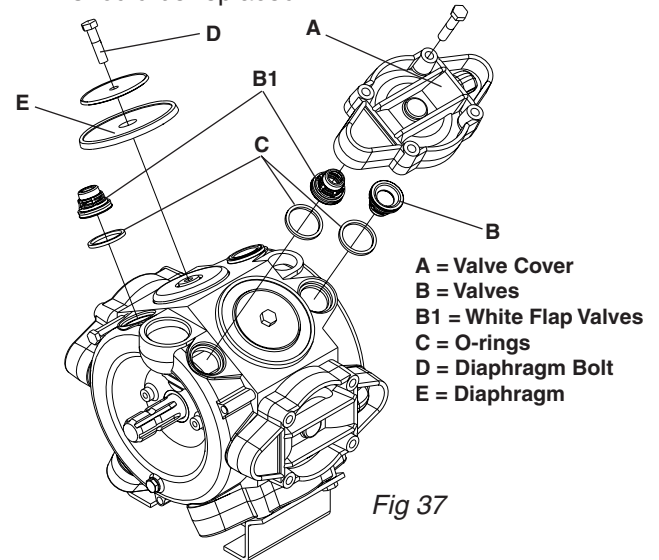
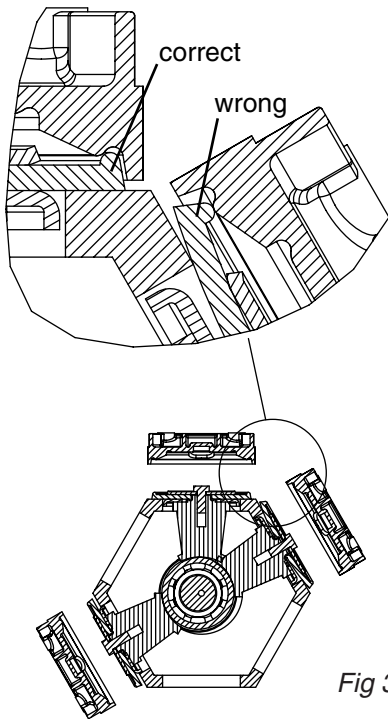
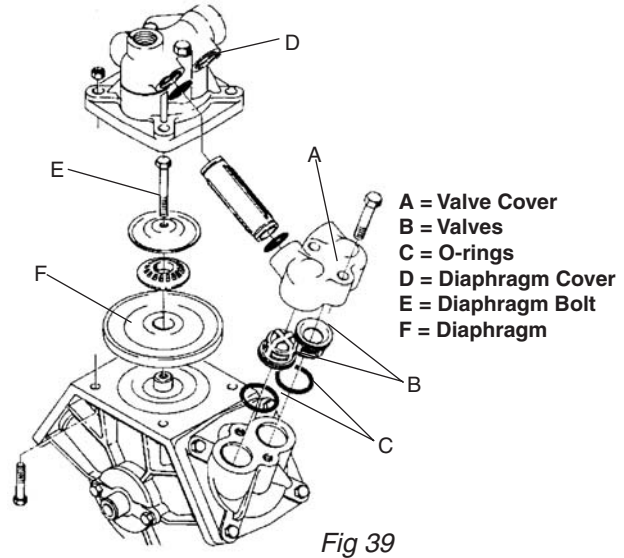

Fig 37
Fig 38
Fig 39
- 1 Remove the valve covers (**A Fig 37**). Before changing the valves (**B & B1 Fig 37**) note their orientation so they are replaced correctly.
- 2 The two white flap valves (**B1 Fig 37**) must be placed in the valve openings as shown. It is recommended to use new O-rings (**C Fig 37**) when changing or checking the valves.
- 1 With the valve covers removed as explained above, remove the diaphragm bolts (**D Fig 37**).
- 2 The diaphragms (**E Fig 37**) may now be changed.
**IMPORTANT!** Before tightening the 4 bolts for the diaphragm cover (**A Fig 37, D Fig 39**) the diaphragm must be positioned between center and top to ensure correct sealing between diaphragm pump housing and diaphragm cover (*Fig 38*). Turn crank shaft if necessary.
- 1 Remove the valve covers (**A Fig 39**). Before changing the valves (**B Fig 39**) note their orientation so they are replaced correctly. It is recommended to use new O-rings (**C Fig 39**) when changing or checking the valves.
- 1 Remove the diaphragm covers (**D Fig 39**).
- 2 Remove the diaphragm bolts (**E Fig 39**).
- 3 The diaphragms (**F Fig 39**) may now be changed.